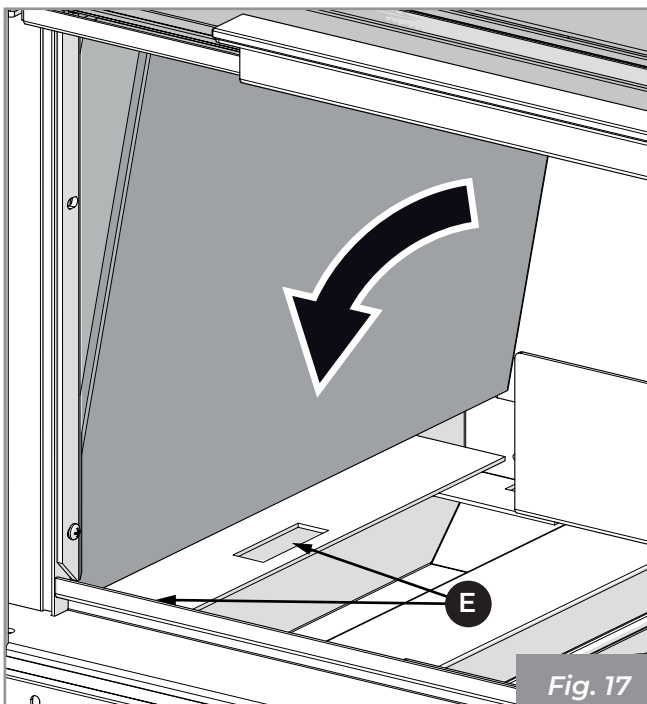

Fig. 17
- 3) Position the side refractory being sure to insert it in the appropriate slots (E) (Fig. 17).